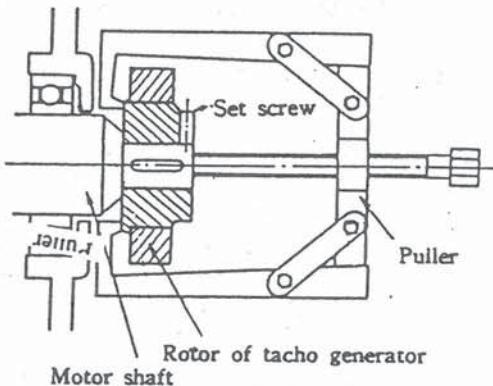

Fig. 8-8
- o Loosen the setscrew and withdraw the rotor while applying a puller to the boss. (Never apply the puller to the permanent magnet.) (Fig. 8-8)